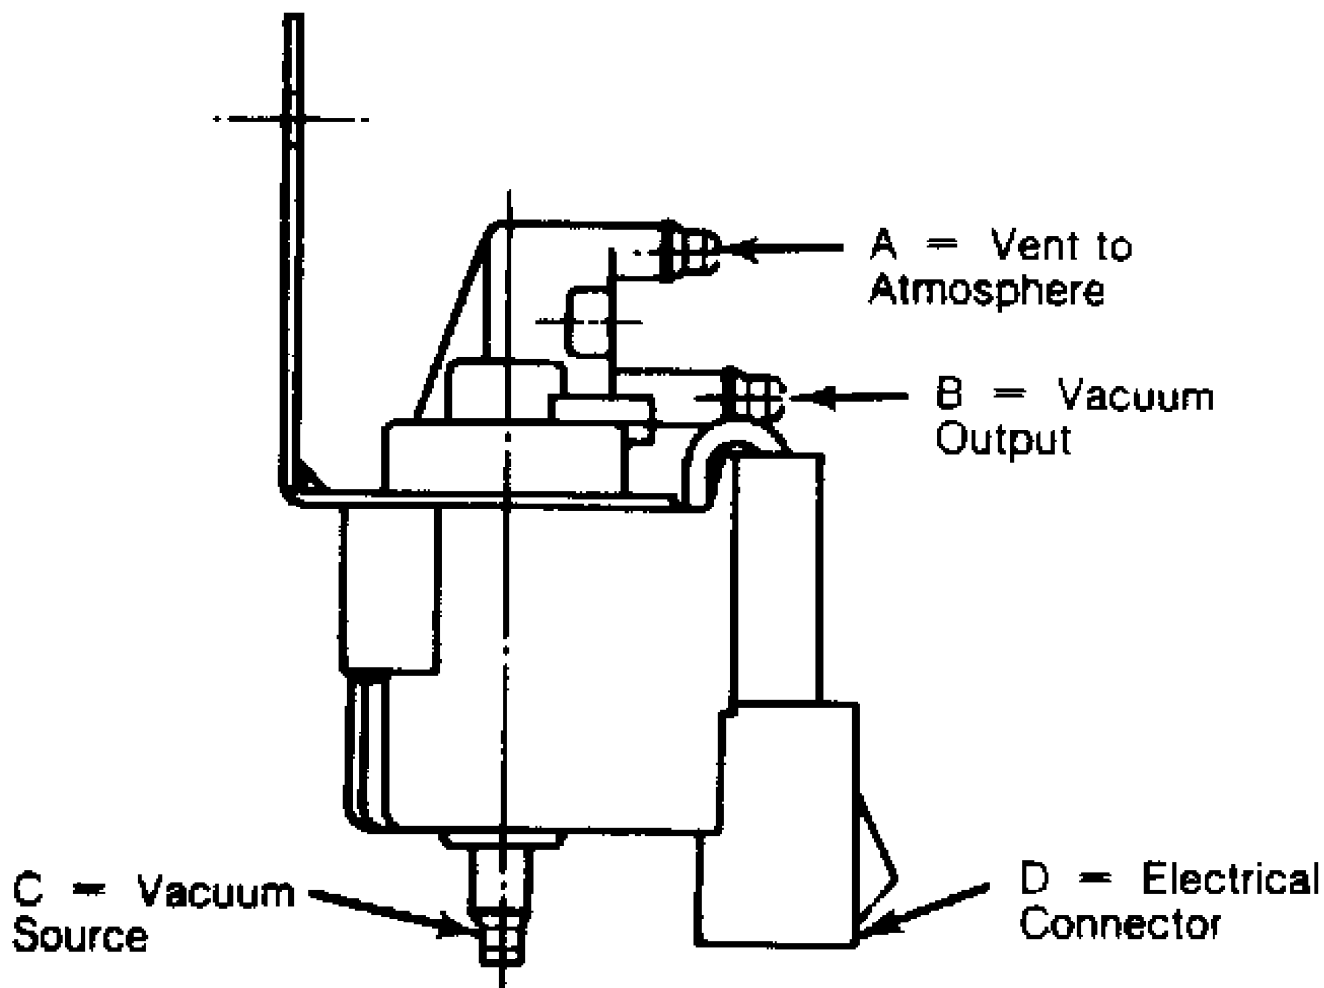

Fig. 4: EGR Solenoid Test Points
1) Verify that vacuum is present at vacuum fitting "C" of EGR solenoid. See Fig. 4. Remove vacuum connector from "A" and "B". Connect a vacuum gauge to "B".